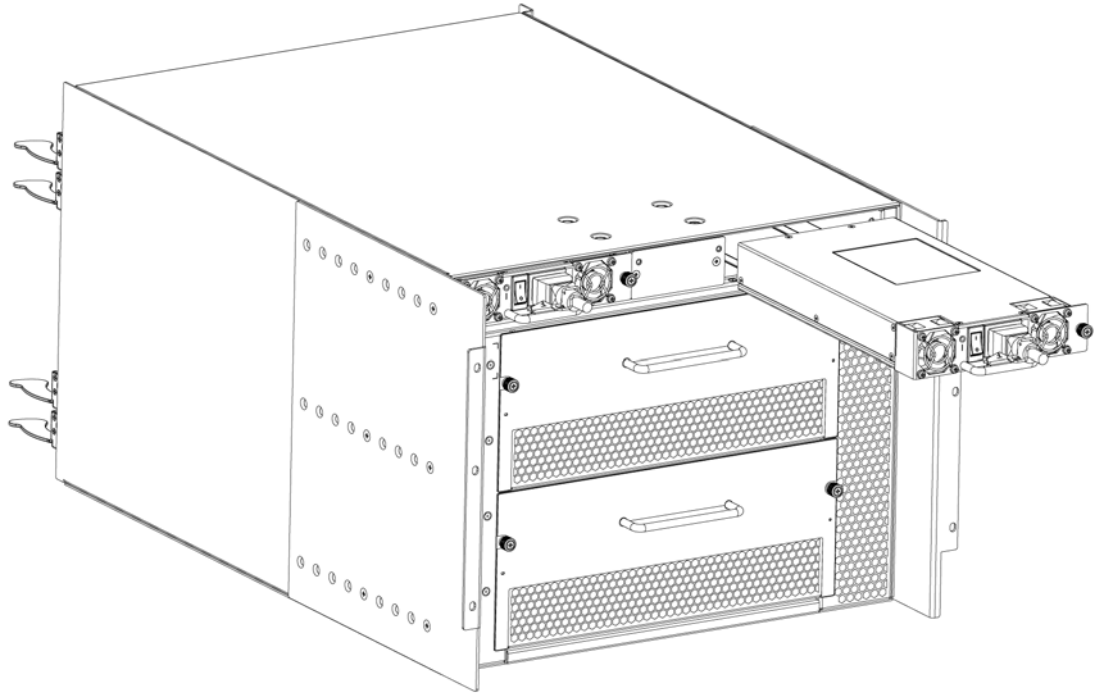

FIGURE 26 RRP: Power supply
4. Loosen the thumb screw (Figure 26).